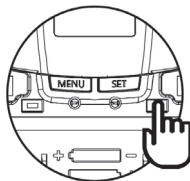

Figure 4
1. Press the synchronizing button on the belt pack (Fig 4).